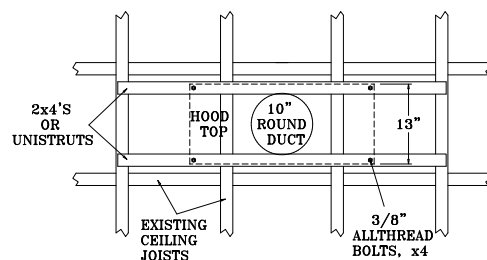

Figure 3.
3. Construct the frame using wood 2x4's. Due to the weight of the hood, structural support is necessary. (See Figure 3)
4. Locate and mark the center of the hood. Attach two wood 2x4's across the top of the ceiling joists. (See Figure 3)
5. Drill four 3/8" holes in the 2x4's to match the pattern on the top of the hood. (See Figure 3)
7. While lifting the hood, align hood mounting holes with pre-drilled ceiling holes. Slide 5/8" all-thread rods through the hood mounting holes and tighten into wood 2x4 framing. DO NOT OVER TIGHTEN SCREWS. (See Figure 3)